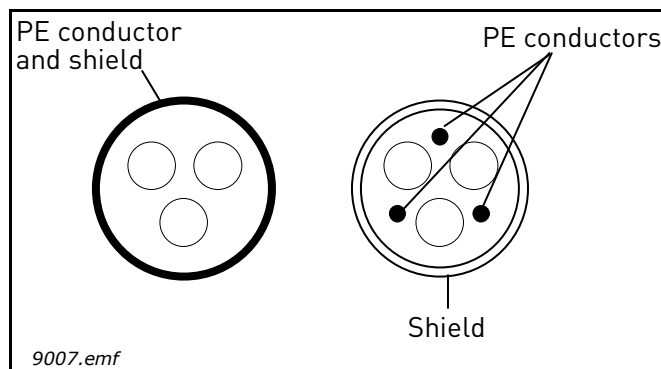

Figure 18.
- 2 = Symmetrical power cable equipped with concentric protection wire and intended for the specific mains voltage. (MCMK or similar recommended). See Figure 18.
- 3 = Symmetrical power cable equipped with compact low-impedance shield and intended for the specific mains voltage. [MCCMK, EMCCK or similar recommended; Recommended cable transfer impedance (1...30MHz) max. 100mohm/m]. See Figure 18.